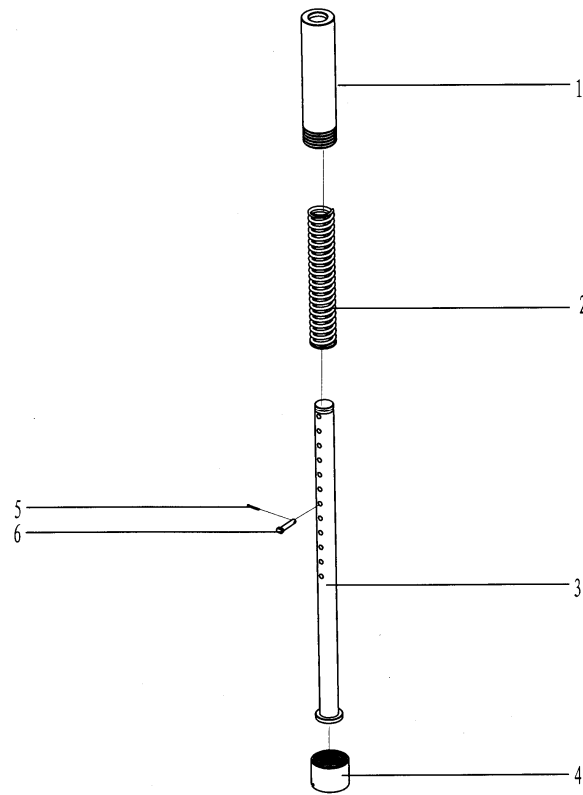

Fig12. Fore guide pole assembly
7.4 Fore guide pole assembly (Fig12. Table12)